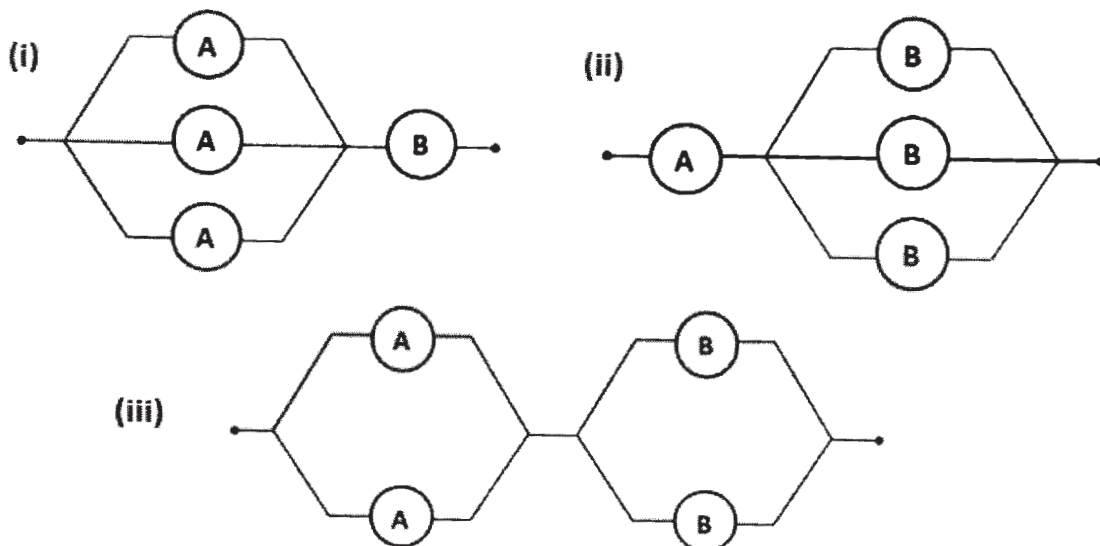

Fig. 2 Different configurations of sub-systems (i, ii and iii)
- b)** A system S consists of sub-systems of A and B, each having reliability 'p'. In order to improve the reliability of the system, following three configurations of sub-systems are suggested as shown in Fig. 2. Obtain the reliability of each sub-system and determine amongst three which configuration has the highest reliability? Assume that the elements are independent. **[6]**